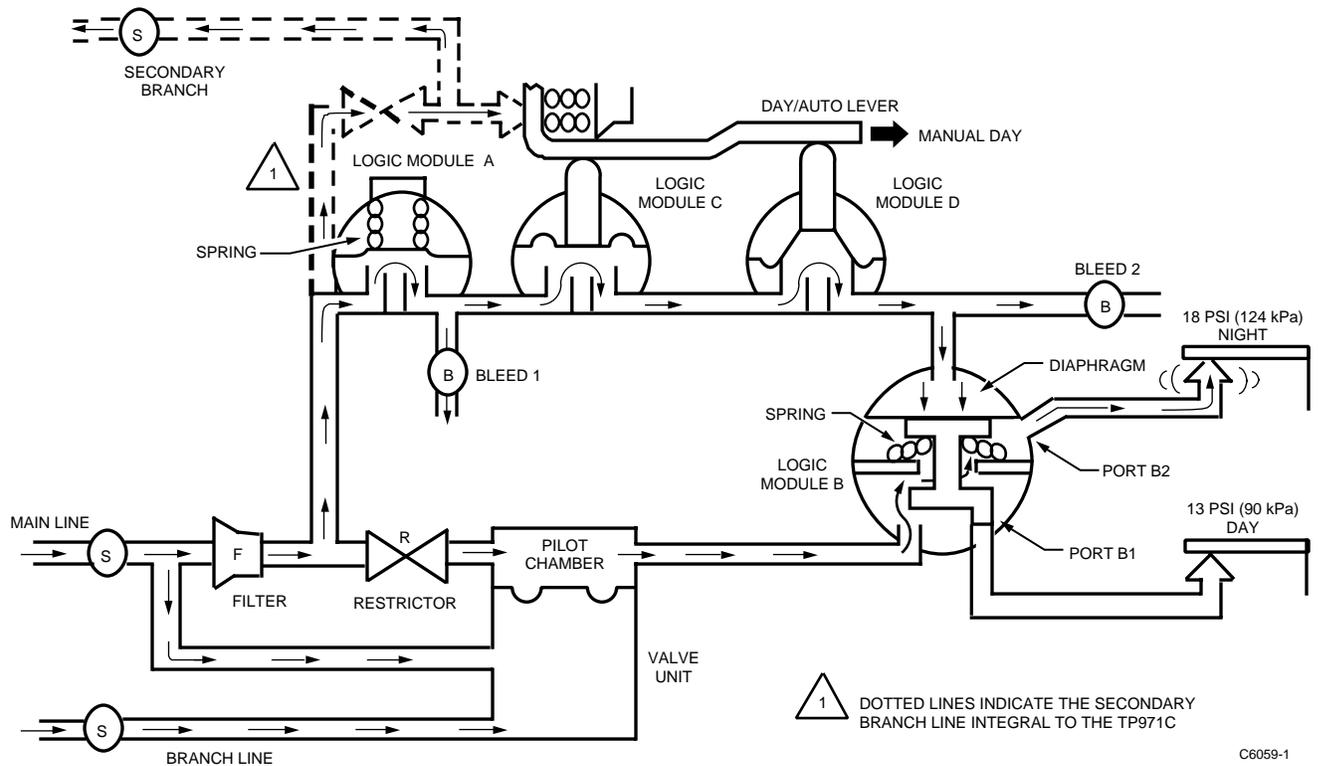

Fig. 14. TP971 and TP9610 Operation on Nighttime Cycle—Main Air Pressure 18 psi (124 kPa).
In Figure 14, the main air pressure is at 18 psi (124 kPa) for nighttime operation. The airflow, shown by arrows, is the same as the daytime cycle up to Logic Module A and Logic Module B. The main air pressure, 18 psi (124 kPa), is now enough to overcome the spring-loaded diaphragm in Logic Module A. Because the manual override lever is in the AUTO position, the air passes through Logic Module A, and then through Logic Modules C and D. This air pressure forces the diaphragm of Logic Module B downward, closing Port B1 and allowing air to pass through Port B2. The airflow then passes to the 18 psi (124 kPa) (NIGHT) nozzle-flapper. In this condition, the Thermostat operates on a nighttime cycle. Valve unit flow amplifier operation is identical to that described in the Valve Unit Operation section.
During normal nighttime operation conditions (Fig. 14):
3. The manual DAY/AUTO lever is in the AUTO position because operation is under normal nighttime conditions (Fig. 14).